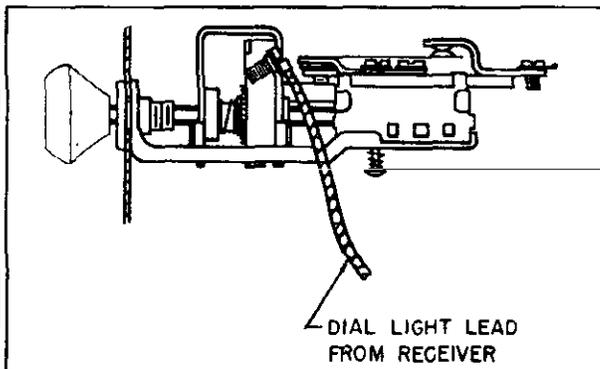

Figure 66
16. Connect dial light lead to the instrument panel light terminal on the truck lighting switch. (See Figure 66.)